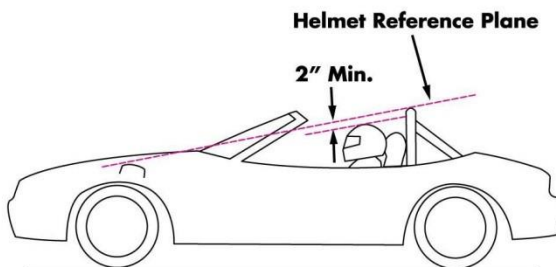

Figure 1. Helmet Reference Plane
- 1.1. With the driver and passenger seated normally and restrained by the seat belts/harnesses, a plane (the “Helmet Reference Plane”) drawn from the top of the roll bar (excluding padding) to structural parts of the chassis in front of the base of the windshield (e.g., top of front suspension strut towers) shall pass at least two (2) inches above both the driver’s and passenger’s helmets. See Figure 1.